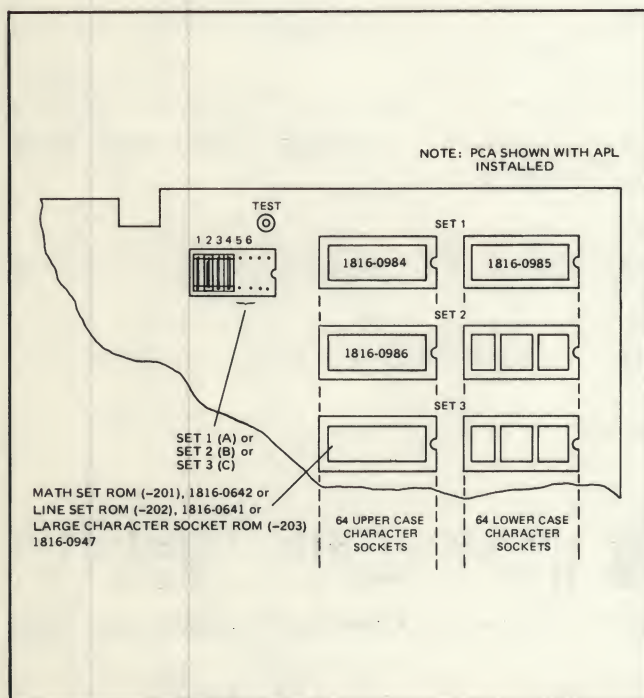

Figure 7-35. Display Enhancement PCA Jumper and ROM Socket Locations (HP 2641A)
- b. Figure 7-35 shows the jumper and ROM socket locations for the Display Enhancement PCA.